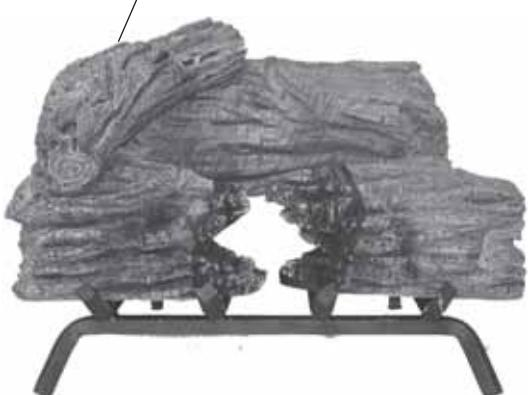

Figure 16 - Placing Left Middle Log (#4)
5. Install left side middle log #4 as shown. See Figure 16.